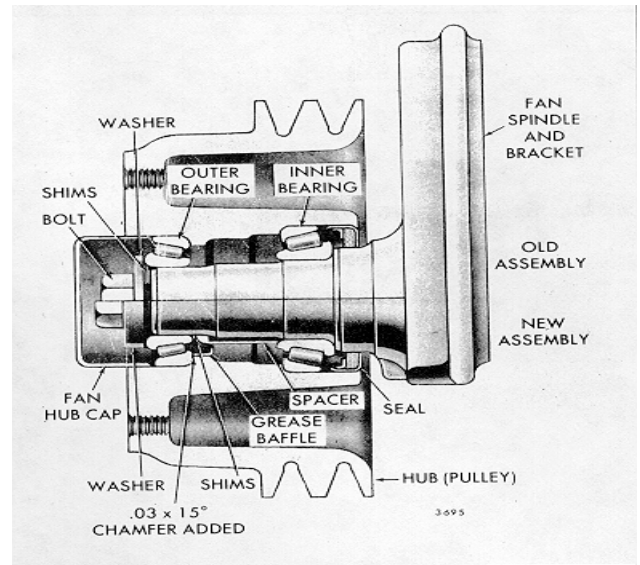

Fig. 7 - Shaft Type Fan Hub Assembly
4. Remove the hub bolt and washer (Fig. 7). Also remove the shims if the former hub assembly (Fig. 7) is used.
7. Remove the bearing spacer shims and grease retainer if new assembly is used (Fig. 7).
Assemble the fan hub and bracket shown in Figs. 7 and 8 as follows:
2. Install the drive belts, adjust the bracket to provide the proper tension, and tighten the bolts. If used, install the adjusting bracket, bolt and plain washer shown in Fig. 7.